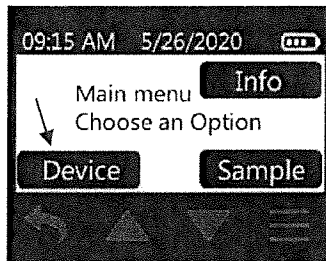

Figure 52. Device Button
1. Press the main menu button (three Horizontal lines below the display) to get to the Main Menu and touch Device (Figure 52).